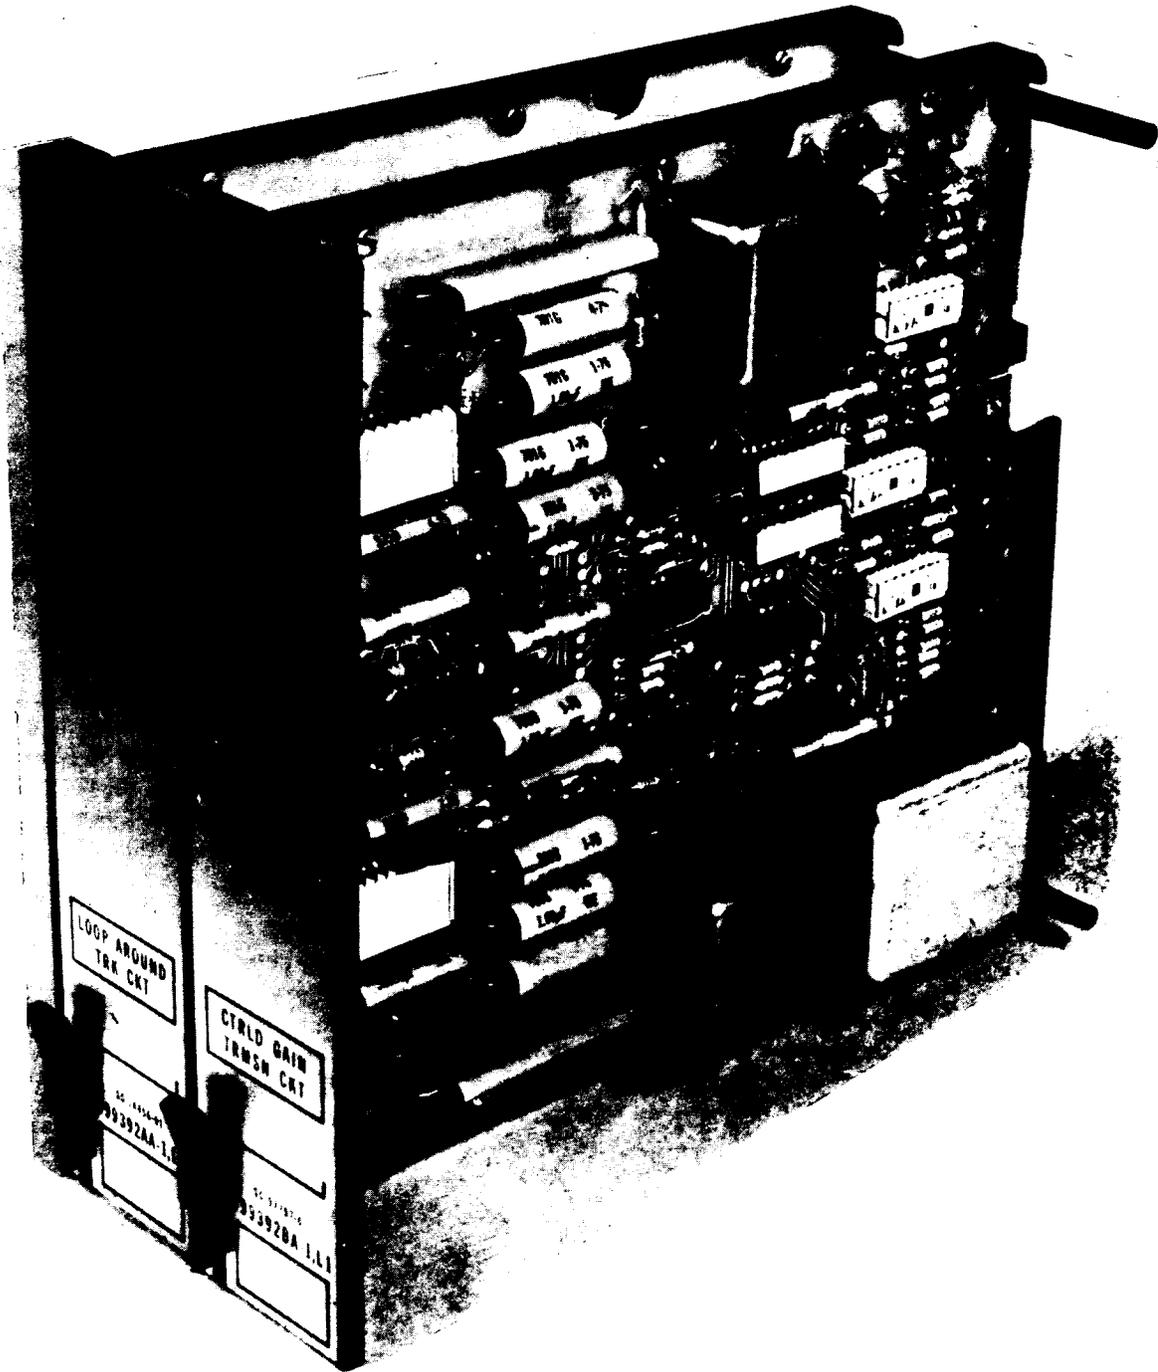

Fig. 2 — J99392AA Loop Around Trunk Circuit And J99392BA Controlled Gain Transmission Unit
1.07 The J99392AA loop around trunk circuit (Fig. 2) is a plug-in unit that provides the interface and control circuitry between the controlled gain transmission circuit and the ESS switching machine. This unit consists of components mounted on a double sided printed wiring board, supported in a plastic card holder, with an adhesive backed designation label attached to the front face of the holder. Connections to the shelf are through the gold plated connector at the rear of the unit. The unit occupies a space of 1-3/4 inches wide by 8 inch high and 9 inches deep in the RSTC shelf.
1.08 The J99392BA controlled gain transmission unit plug-in (Fig. 2) provides selective gain for trunk-to-trunk connections on 900-ohm circuits. Predetermined values of gain and loss are voice controlled in this unit. Physically, the J99392BA is the same size as the J99392AA and is mounted on the same type board and card holder. This transmission unit is designed specifically for use in RSTC and is not a general purpose terminal-to-terminal repeater.